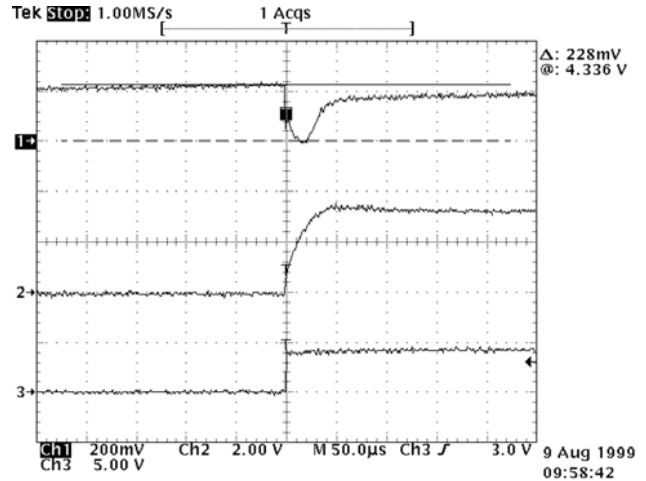

Figure 5.  $V_{CC}$  Power-up Cold Start
**$V_{CC}$  Power-up Cold Start.** Figure 5 shows the output response during an initial  $V_{CC}$  power-up with  $V_{AUX}$  not